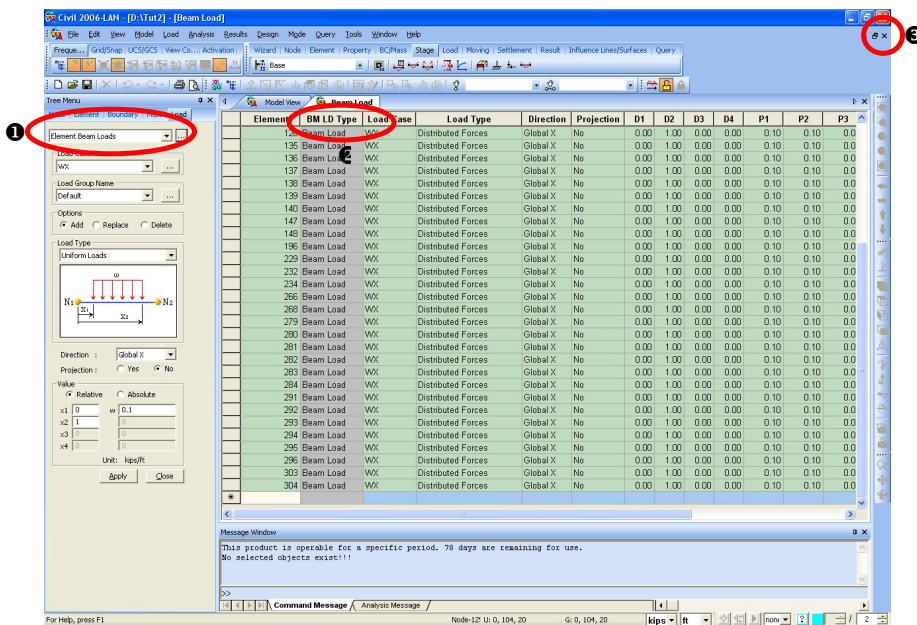

Figure 2.22 Element Detail Table
Click the button  on the right of the functions selection field (Fig.2.22–①) to confirm the loads applied to beam elements in **Beam Loads Table**.
3. Click the **Bmld** tab at the bottom of the **Element Detail Table** window (Fig.2.22–②) and confirm the current load of the selected element.
4. Click  as shown in Fig.2.22–③.